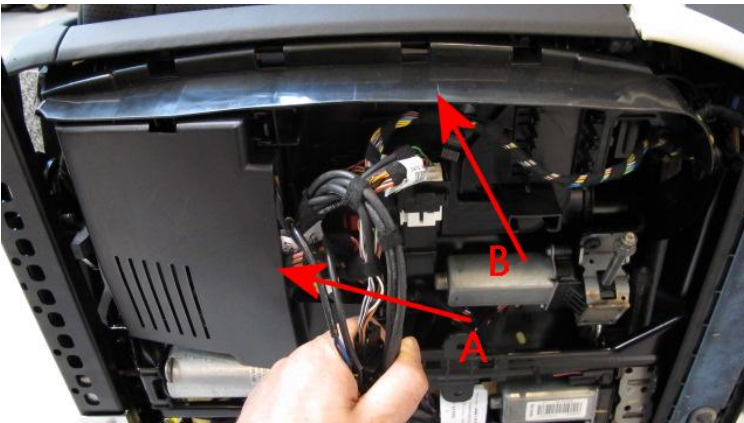

Figure 13
3. Referring to Figure 13, locate the seat control module cover (Point A) and the front seat valance trim bracket (Point B)